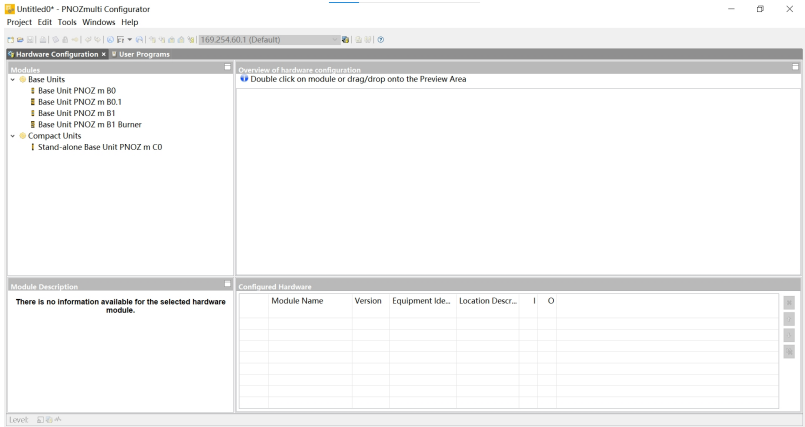

Figure 14-2 Default interface of PNOZmulti Configurator
- b. Open PNOZmulti Configurator. The New Project window displays by default, as shown in "Figure 14-2 Default interface of PNOZmulti Configurator" on page 330.